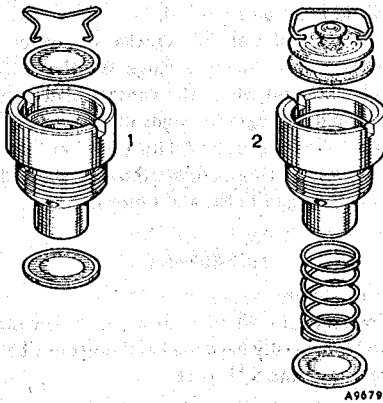

Fig. 9. The valve assembly, LCS type pump
13. On later-type pumps with plastic valves assemble the cork washer into the valve cage (Fig. 9), follow this with the plastic valve, spring side uppermost, and retain it with the circlip in its groove. Insert the inlet valve into the body of the pump, smooth face to seating, thread the inlet valve spring onto the valve cage, and tighten down firmly.